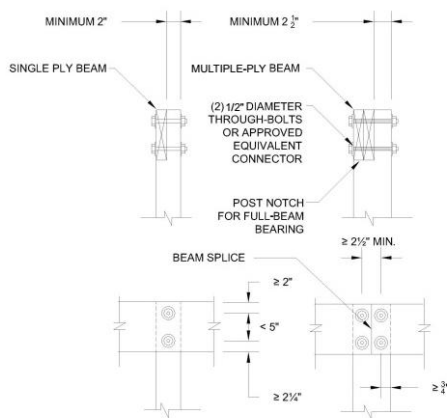

FIGURE R507.5.1(2) NOTCHED POST-TO-BEAM CONNECTION
- Install (1) 16-ga. ST12 Simpson galvanized straps per post per manufacturer's specifications on both posts for deck and patio covering.
- Install with (10) .162 x 2-1/2 nails or approved Simpson SD screws per manufacturer's specs.
- Shall be attached with (2) through bolts per IRC Figure R507.5.1 (2).
- Shall be attached with (2) 1/4" x 5" lag screws per connection.